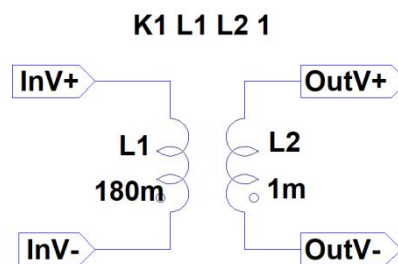

Fig. 6. Diagram of a transformer.
3. Draw a diagram of the transformer as shown in Figure 6. *InV+* and *InV-* are labels set as inputs (*Port Type: Input*), and *OutV+* and *OutV-* are labels set as outputs (*Port Type: Output*). Enter the coupling of coils **K1 L1 L2 1** as the Spice directive.